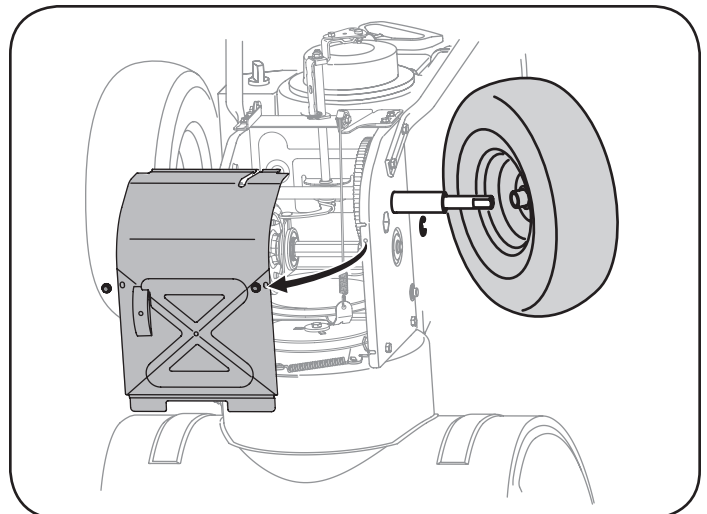

Figure 27
5. Remove the right-hand wheel by removing the screw and bell washer which secure it to the axle. See Figure 27.